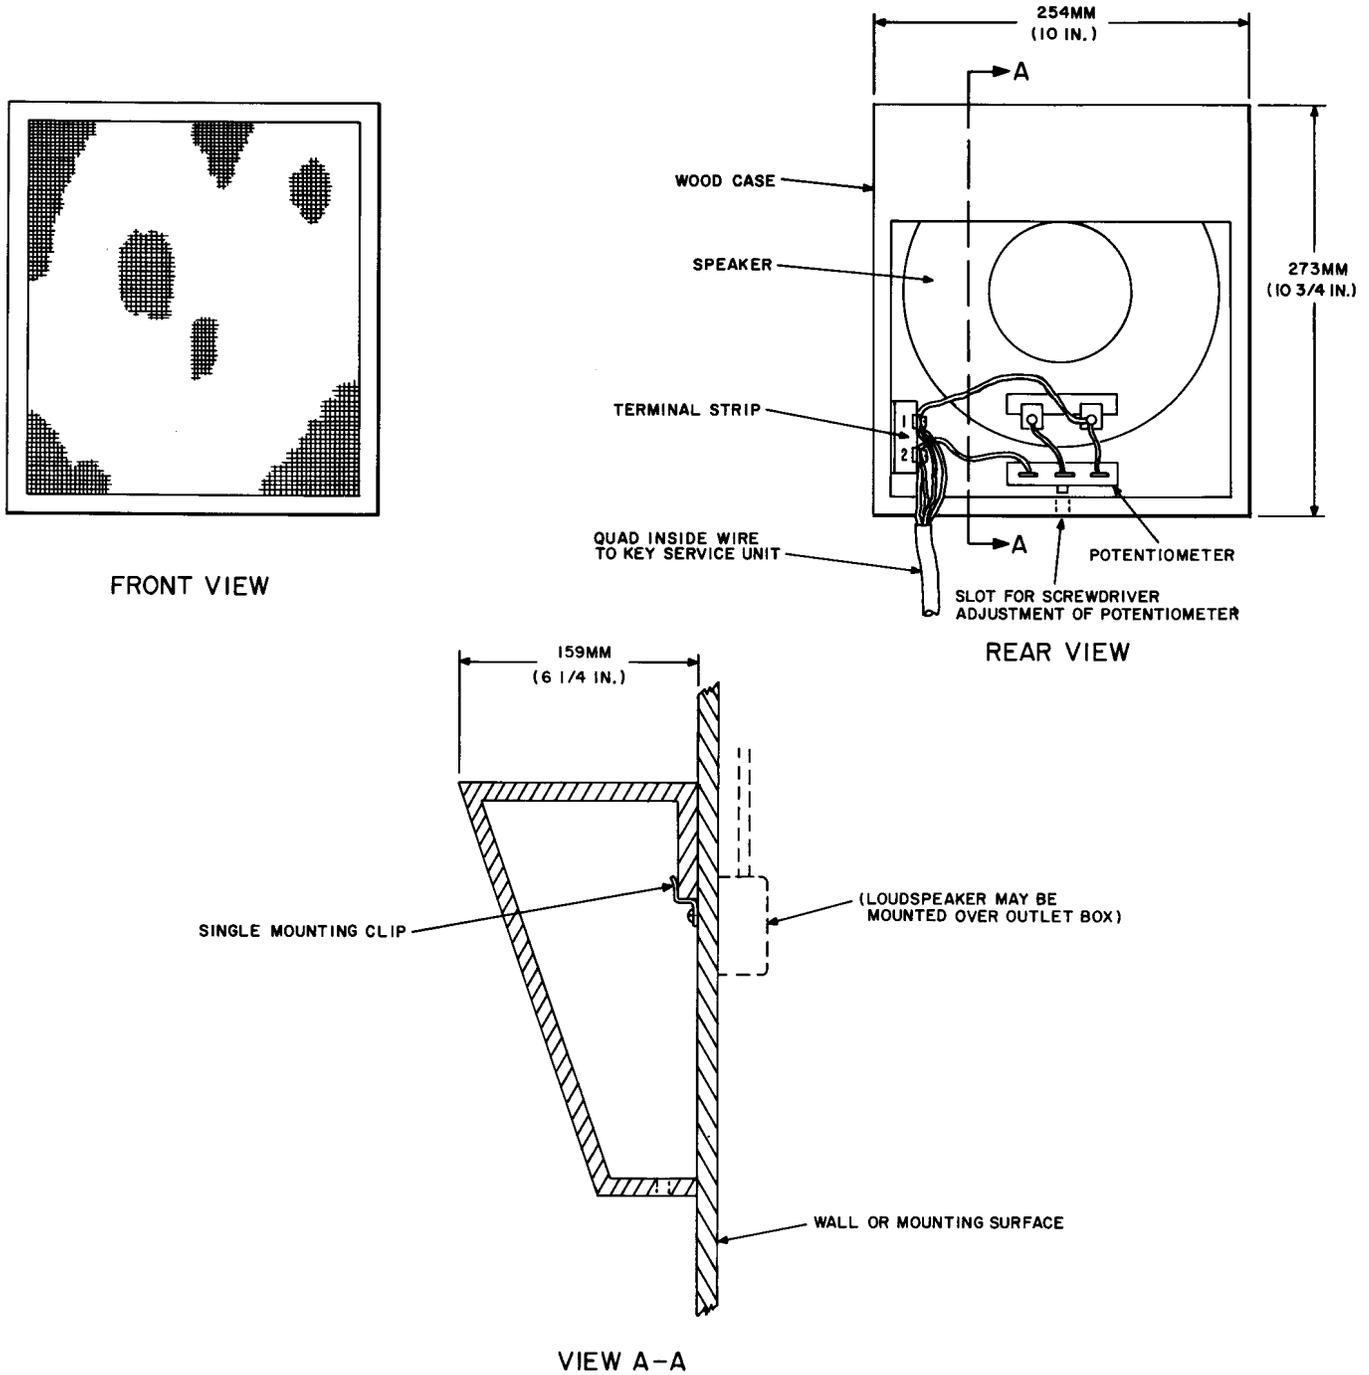

Fig. 5—KS-21880L1 Loudspeaker, Connections, and Mounting
**2.15** The KS-21880L1 loudspeaker (Fig. 5) is an indoor speaker used for paging. It is 11 inches high, 10 inches wide, and 6-1/2 inches deep. It has a potentiometer (with screwdriver adjustment slot) for volume control. The KS-21880L1 loudspeaker is furnished with a walnut (woodgrain) finish. It was formerly known as the K8 loudspeaker. The speaker and the speaker enclosure are available as a List 2 and List 3, respectively, as repair or replacement parts.